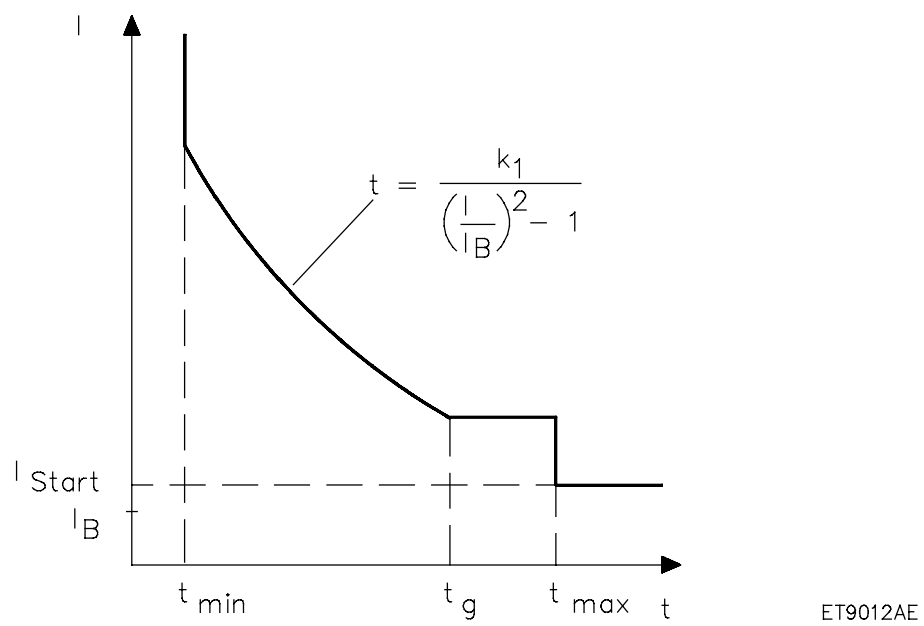

Fig. 3.5.17.1 Operating characteristic of the rotor overload function
- delay inversely proportional to overload (see Fig. 3.5.17.1)